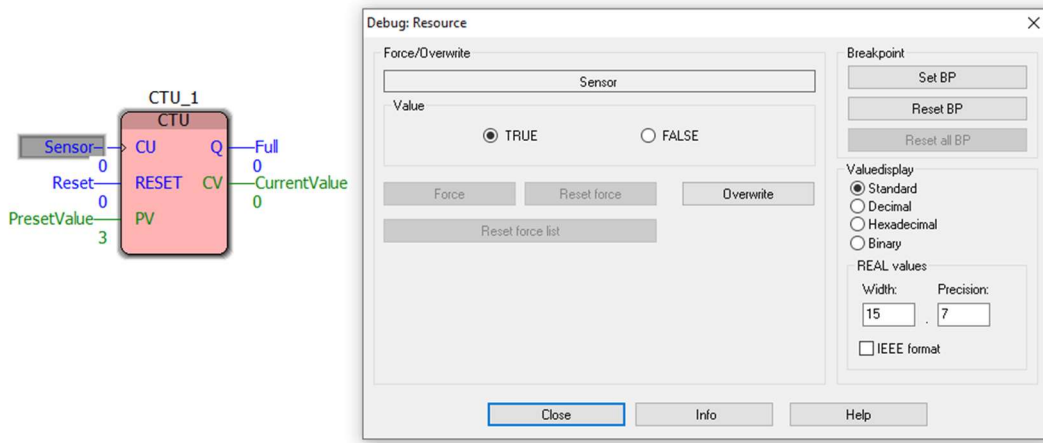
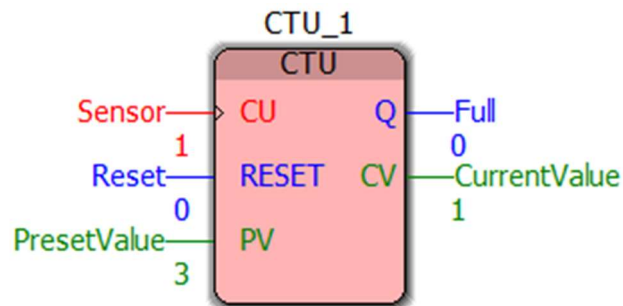

Figure 23: Sensor Execute Overwrite
Figure 24: CTU Block after Sensor Overwrite
- Double-click 'Sensor' and once in the window in Figure 23, hit Overwrite to change the value so that the blocks look like they do in Figure 24.